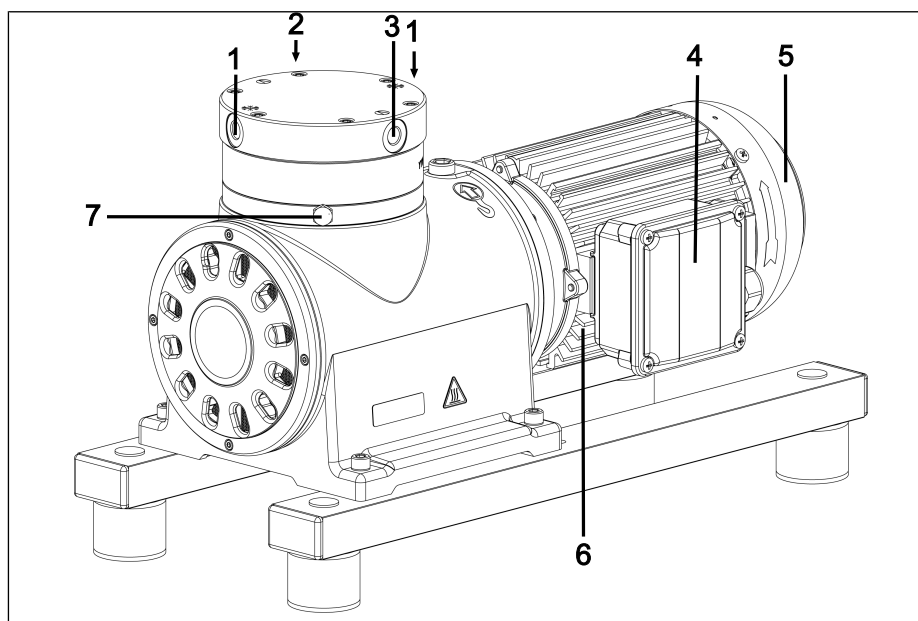

Fig.1 Design N630.12
2. Fasten the carrying strap between compressor housing and motor (Fig. 1, see Fig. 6).